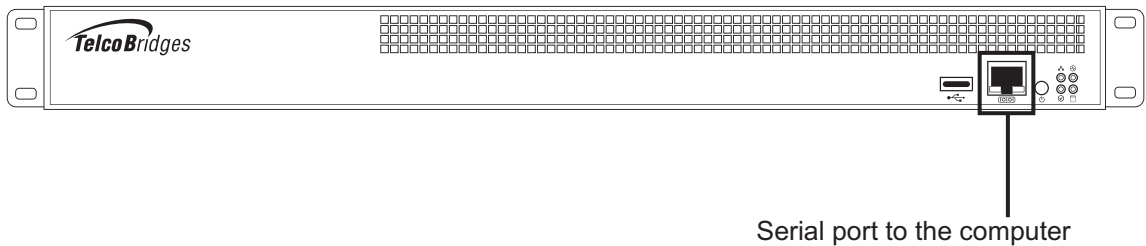

Figure 3.1 Computer to 800 Series Gateway Serial Port Connection
1. Connect one end of a CAT5 RJ-45 (male-male) cable to the Tmedia serial adapter (both supplied with unit). Connect the DB9 to RJ-45 to the serial port of the computer and the other end of the CAT5 RJ-45 (male-male) cable to the serial port (labelled 10101) of the 800 series gateway as shown in figure 3.1 on page 40. See Section A.2 “RJ48 Console Wiring Diagram” on page 48 for a RJ-45 pinout description.